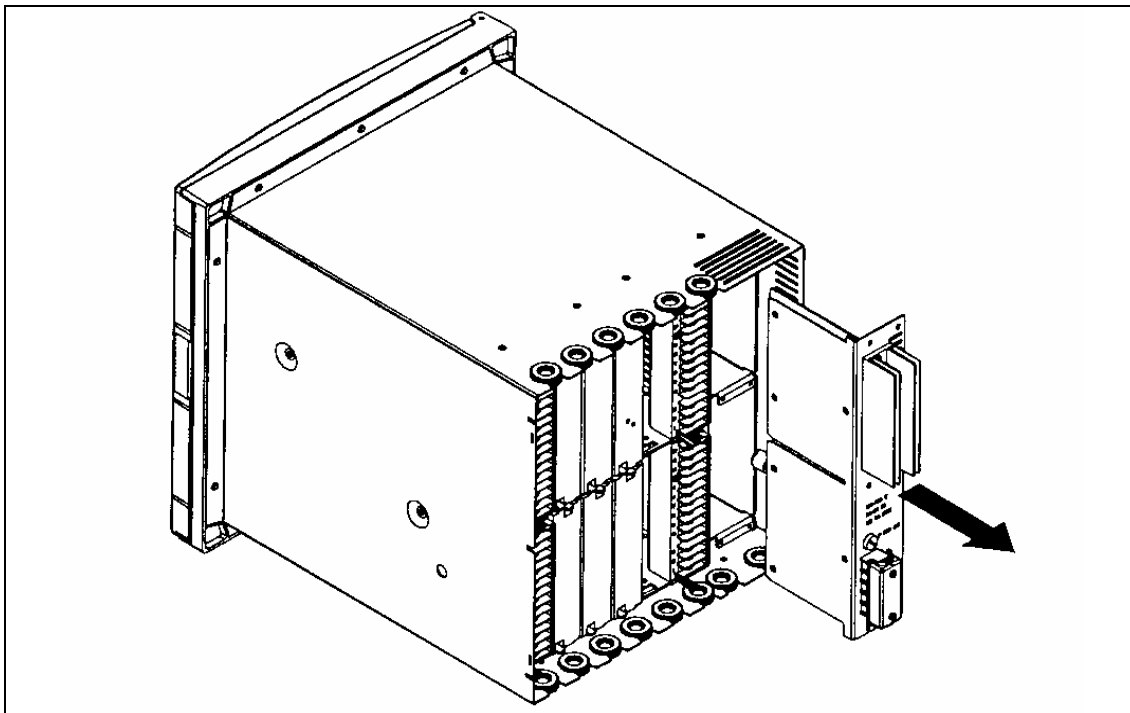

Figure 2-6
13. Remove the power supply by removing 5 screws; two at the top, one in the middle and two at the bottom. (See Figure 2-6)